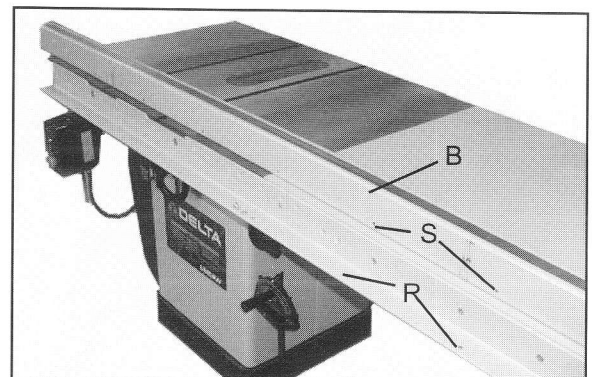

Fig. 14
11. Lay the guide tube (B) Fig. 14, on the saw table as shown, and line up the threaded holes (S) on the bottom of guide tube with the through holes (T) on the front rail. **NOTE: The guide tube should extend past the rail 6" on each end.**
12. Position the guide tube (B) on the front rail and fasten the guide tube to the rail using the 1/4-20 x 1/2" long hex head screws and lock washers. **NOTE: Where there are two holes 2-1/2" apart, use only the left hole.**